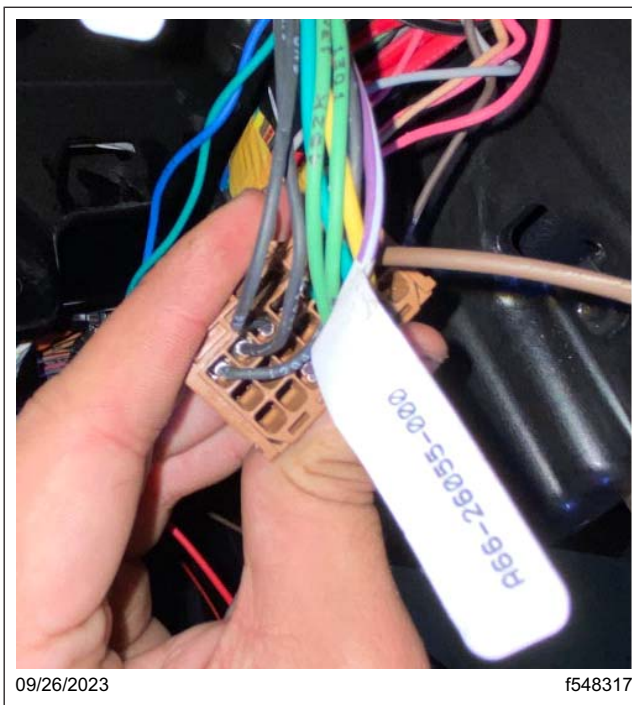

Fig. 49, Engaging the Lock on the XMC2 X3 Connector
- 13.7 Squeeze the top and bottom of the XMC2 X3 connector to lock it. Reconnect the X3 connector to XMC2. See Fig. 49.